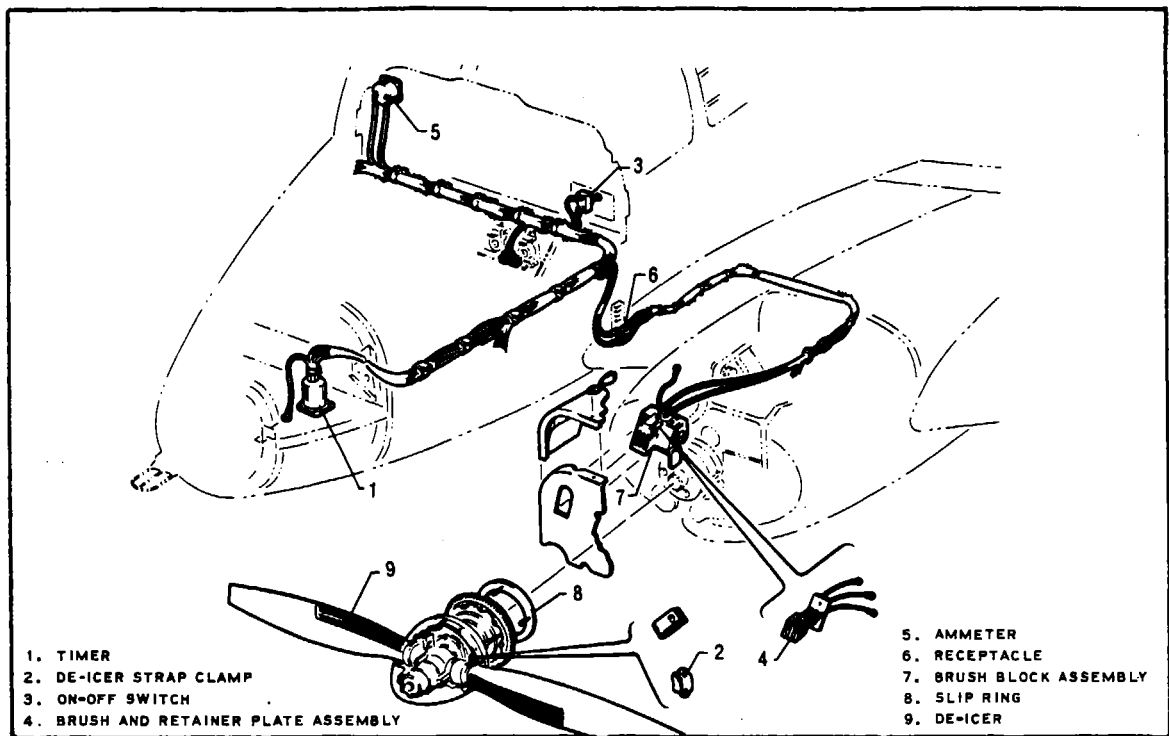

Figure 14-6. Propeller De-Icer Installation, PA-23-250
14-21. DESCRIPTION AND PRINCIPLES OF OPERATION. (Refer to Figure 14-6 or 14-7.) This section provides service and maintenance procedures for the B. F. Goodrich Electrical Propeller De-Icing System. Each Propeller De-Icing System consists of an electrically-heated De-Icer (9) bonded to each propeller blade, a slip ring assembly (8) with a brush block assembly (7) to transfer electrical power to the rotating De-Icers, a timer (1), an ammeter (5), and a control switch (3) together with wiring harnesses to complete the circuit.